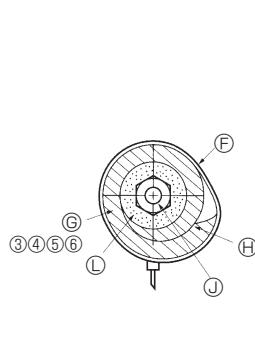
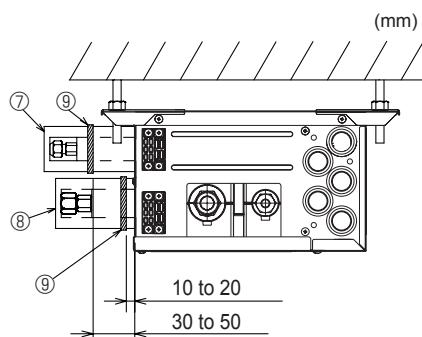

Fig. 7-3
Fig. 7-4
- (3) Connect the refrigerant piping immediately. Always tighten the flared nuts to the torque specified in the table 2 using a torque wrench and double spanner.
- (4) Press the pipe covers ③ and ⑤ on the liquid piping against the unit and wrap to hold in place. (Fig. 7-3)
- (5) Press the pipe covers ④ and ⑥ on the gas piping against the unit and wrap to hold in place. (Fig. 7-3)
- (6) Apply the supplied bands ⑨ at a position 10 - 20 mm from each end of the pipe covers (③④⑤⑥).
- (7) If the indoor unit is not connected, fit the supplied pipe covers (with caps, ⑦ and ⑧) to the branch box refrigerant piping connections against the unit to prevent condensation dripping from the pipes. (Fig. 7-4)
- (8) Clamp the pipe covers (⑦⑧) in place with the supplied bands ⑩.
- ⑤ Band ⑨
- ⑥ Pipe covers ⑦⑧⑩⑪
- ⑦ Tighten
- ⑧ Refrigerant piping
- ⑨ Thermal insulation for refrigerant piping
► Use the following procedures for indoor connection part which indoor unit is not connected. (Fig. 7-4)
- (1) In order to prevent refrigerant leaks, make sure that the flare nuts are tightened according to the specified torques\* in Table 3.